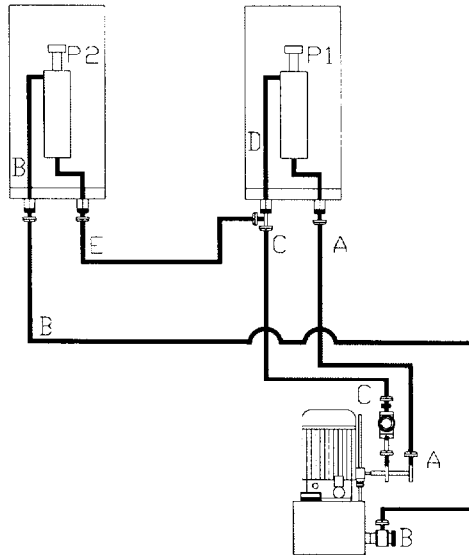

Fig. 3: Hydraulic Schematic. Reference letters for the hydraulic lines and points of connection shown in the figure are the same as those found on the hoses.
Before laying the hydraulic lines, the coupling should be sealed (with adhesive tape, textiles, plastic, etc.), to prevent dirt or other objects from entering the lines during installation (see **Fig. 3**)
2. Connect the pre-assembled hoses as shown in the hydraulic diagram (**Fig. 3**).